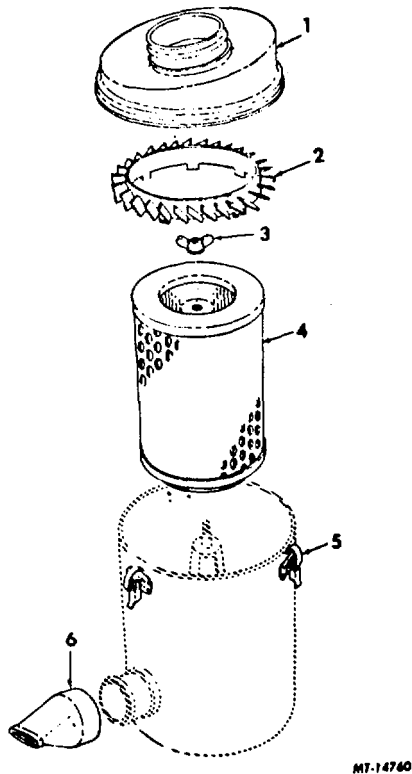

Fig. 2 Heavy Duty Dry Type Air Cleaner
Heavy-duty: Shown in Figure 2
These air cleaners are equipped with an evacuator valve as shown in Fig. 2, item 6.
Legend for Fig. 2.